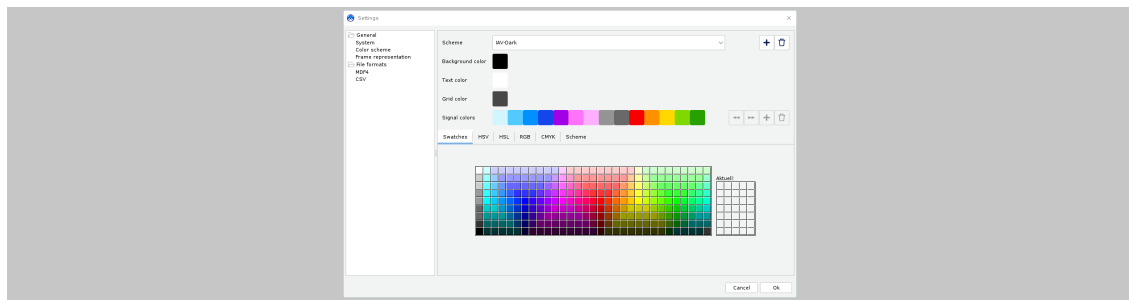

Figure 4: The Settings window > Colour scheme
Using the Colour scheme options (see Figure 4), colours for signals, background, grid and text can be set. The following is possible:
2. Press **Colour scheme** in the left-hand sidebar of the Settings window (see Figure 4).